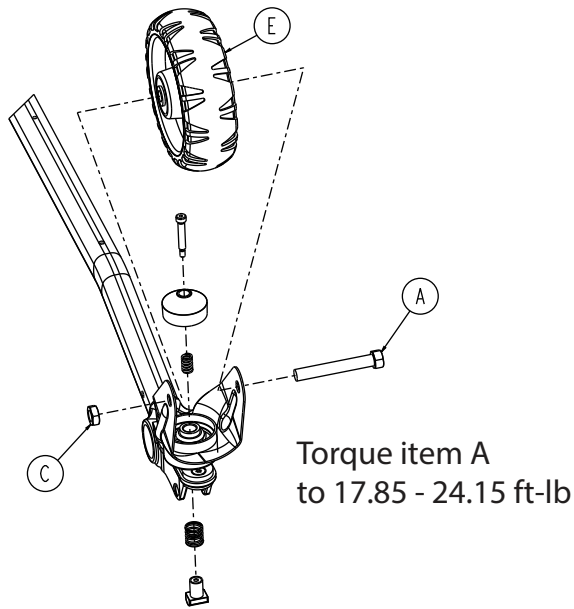

Figure 53 – Transport wheel components
4. Using a ratchet, 11/16" socket wrench, and 5/8" combination wrench, remove the hex head cap screw (A) and toplock hex thin nut (C) that secure the 6 inch molded wheel assembly (E) to the caster horn (Figure 53). Remove and discard the wheel. Save the screw and nut.